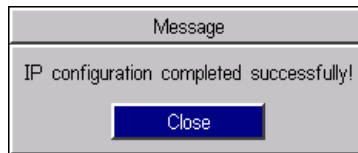

Figure 2-8: IP Configuration Successful Message Box
- 11 Cycle power on the In-Sight 1000 by removing, then reinserting, the RJ-45 connector from the sensor's Breakout port. The message in Figure 2-8 appears when the In-Sight 1000 is located on the network.